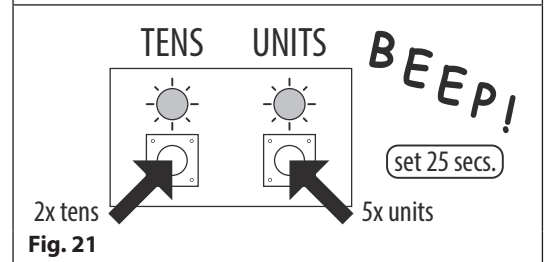

Fig. 21
2. Use the tens and units buttons to set the relay time, e.g. to set the relay time to 25 press the tens buttons twice and the units button 5 times (listen for the confirmation beep each time the button is pressed and observe the yellow tens/units LED's as they should flash each time that each button is pressed), see **Fig.21**.